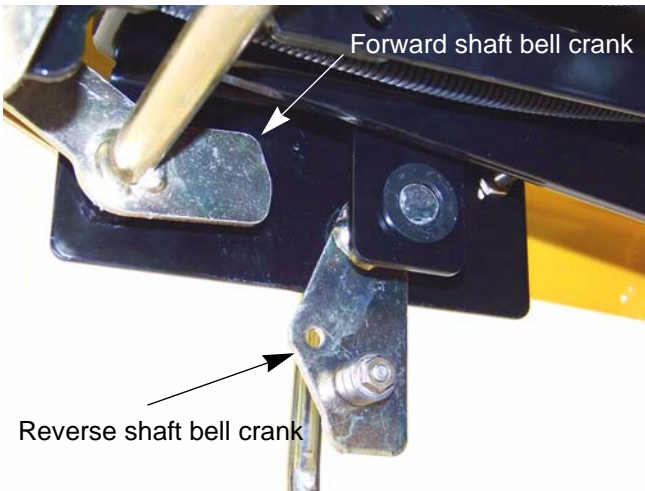

Figure 5.29
8. Rotate the reverse shaft until its bell crank and rollers drop below the bell crank on the forward shaft. See Figure 5.29.